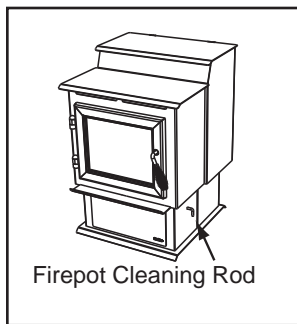
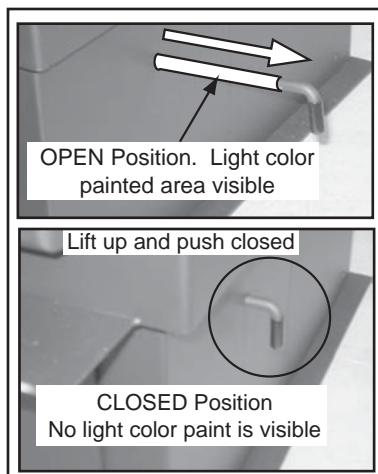

Figure 13.1
Figure 13.2
- b. Locate the firepot cleaning rod on the right side of the appliance. **Figure 13.1.** When you pull the cleaning rod straight out it will slide open the firepot floor to allow the ashes to be deposited in the ash drawer. You will see the light color painted area on the cleaning rod to let you know the rod is in OPEN position. **Figure 13.2.**
- d. To close the firepot floor: **slightly raise the cleaning rod** and then push it back into place. If you have closed the cleaning rod properly (pushed all the way in) you will not see any of the light color painted area. **Figure 13.2.**